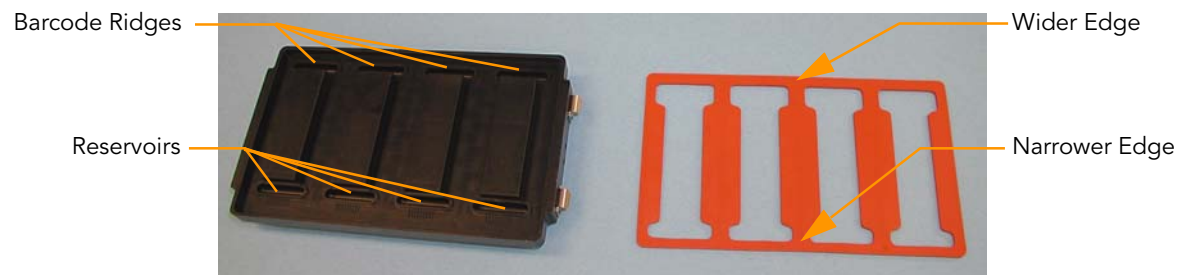

Figure 110 Hyb Chamber and Gasket
- a. Match the wider edge of the Hyb Chamber gasket to the barcode-ridge side of the Hyb Chamber (Figure 110).